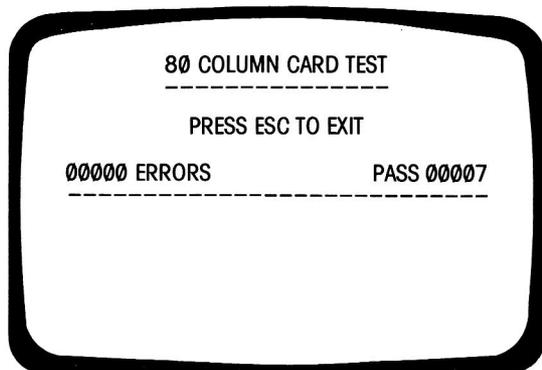

FIG. 11-9 Eighty-column card test screen.
An 80-column card is helpful if you plan to handle text files. Without this card, everything is displayed in 40 columns. Switching back and forth between 40 columns and 80 is done by soft switches, by the display memory on the card, and by the video circuitry. While the 80-column card test (G) is being run, the normal response is for the screen to show the number of errors to the left and the number of passes to the right (see Figure 11-9). The display should shift back and forth between the two (40-column and 80-column) modes.